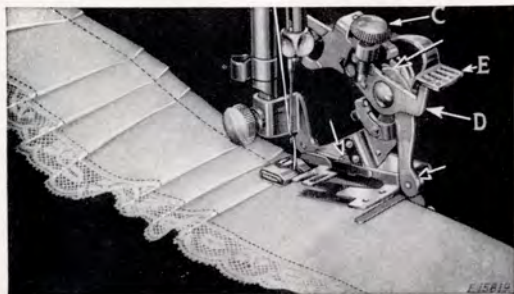

FIG. 60
The ruffler can be adjusted for group plaiting by lifting the adjusting lever (E, Fig. 60) and mov-
ing it to the right so that the top of the projection (D, Fig. 60) enters the small slot indicated
by the star on the adjusting lever. This should be done at the points where you wish to make the space between the plaits. The ruffler will then stop and plain stitching will be made. When the desired space has been made, adjust the lever (E) so that the projection (D) enters either the slot marked "6" or the slot marked "12". By alternately making groups of plaits and plain spaces, as shown in Fig. 60, very attractive work can be produced.
Occasionally apply a drop of oil to the working parts of the ruffler at each of the places indicated by the unlettered arrows in Fig. 60. After oiling, operate the ruffler on a waste piece of material to prevent the oil soiling the work. If the ruffler does not plait evenly, a drop of oil may remedy the trouble.